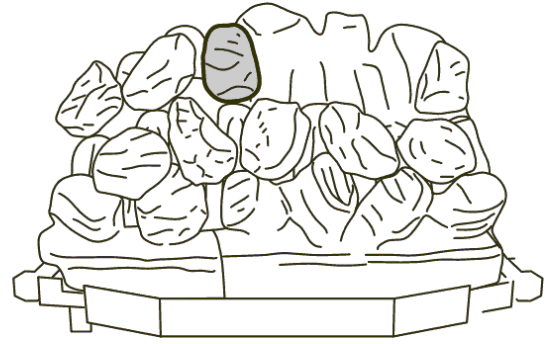

Figure 41. Third row "Coal J"
14. Hold coal 'J' upright with the arrow pointing to the top. Locate coal 'J' as shown in figure 41